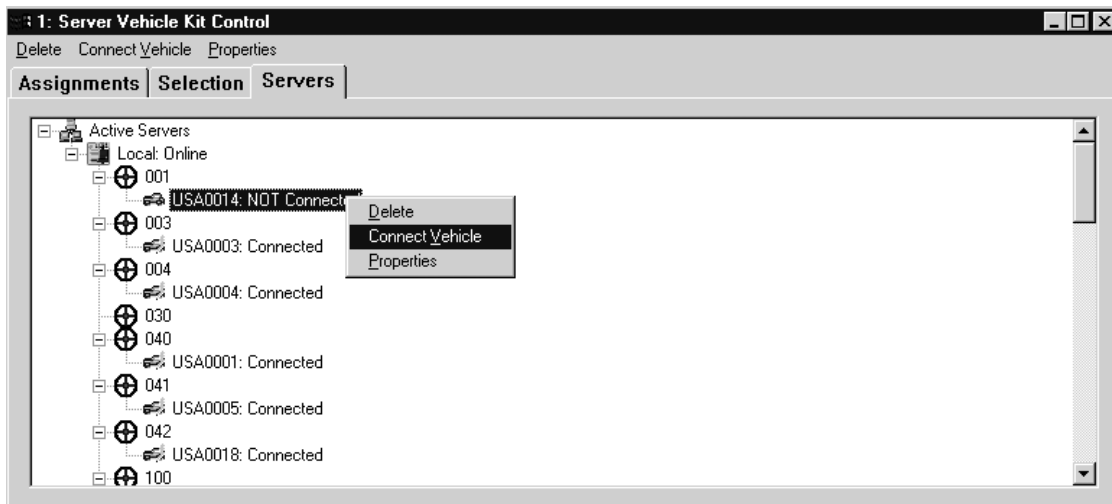

Figure 9-10 Connecting A Vehicle or Group
- (3) To change a unit which is **Not Connected** simply select the **Not Connected** vehicle, then right click, and finally choose **Connect Vehicle** as in Figure 9-10. Once you choose Connect the vehicle will appear as **Connected**. You can follow the same procedure to **Connect** the entire group (fleet). Select the group, then right click, and finally choose **Connect**. To disconnect a vehicle or group follows the same procedures, except instead of choosing a **Not Connected** vehicle or group, you choose one that is **Connected**.